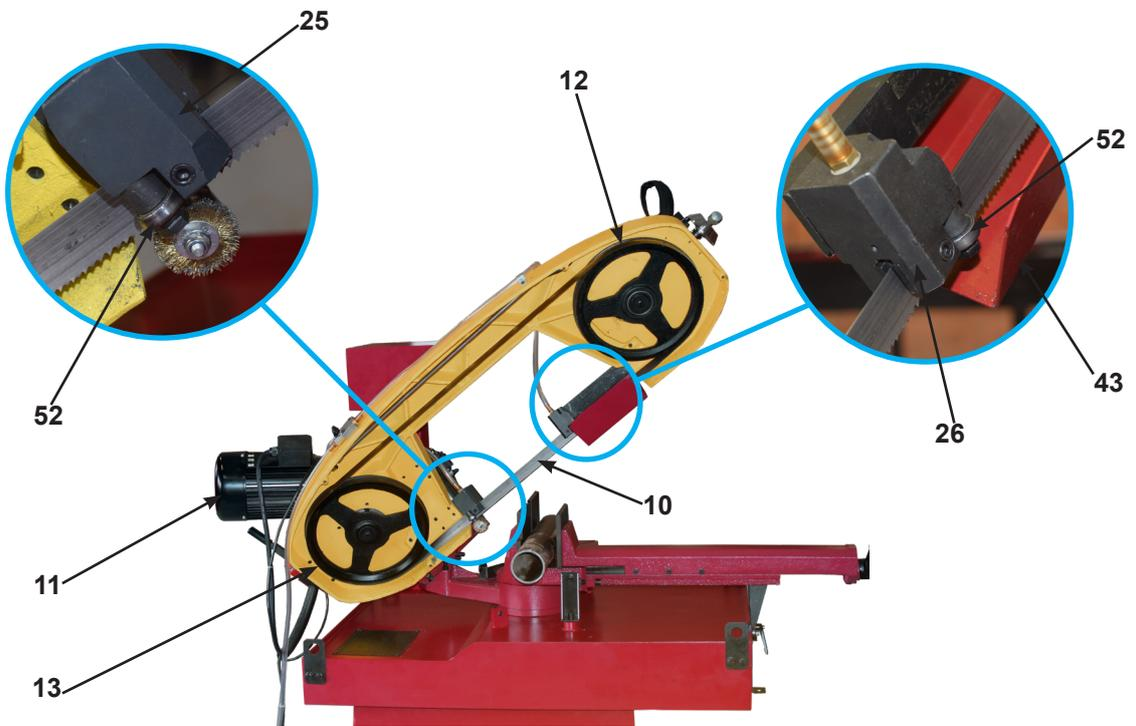

FIGURE 6.2 – FLYWHEELS ASSEMBLY
The segment of the Band Saw Blade (10) that performs the cut is supported by the Fixed Guide (25) and the Mobile Guide (26) (figure 6.2). These Guides (25) and (26) have Bearings (52) (53) and Hard Metal Tablets (27) (figure 14.3), that allow the cutting tool to twist relative to the turning plane of the Flywheels (12) (13), to form the cutting plane.
The first is the Power Circuit, designed to support the load of the electric motors: M1 (11) of the Band Saw Blade (10) (figure 6.2) and M2 of the Coolant Pump (36), (figure 10.2), both being protected against possible short circuits or overloads.
- FR1 Thermal Relay (thermal protection): Motor Protection (11). (figure 6.2) of the Band Saw Blade (10) (figure 6.2) against overload;